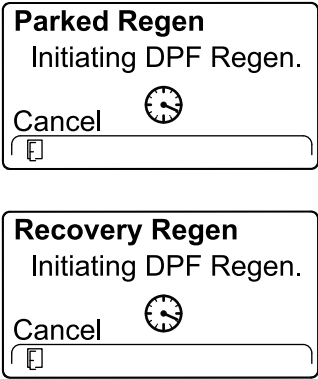

Figure 63
5. The InfoCenter displays the INITIATING DPF REGEN message (Figure 63).